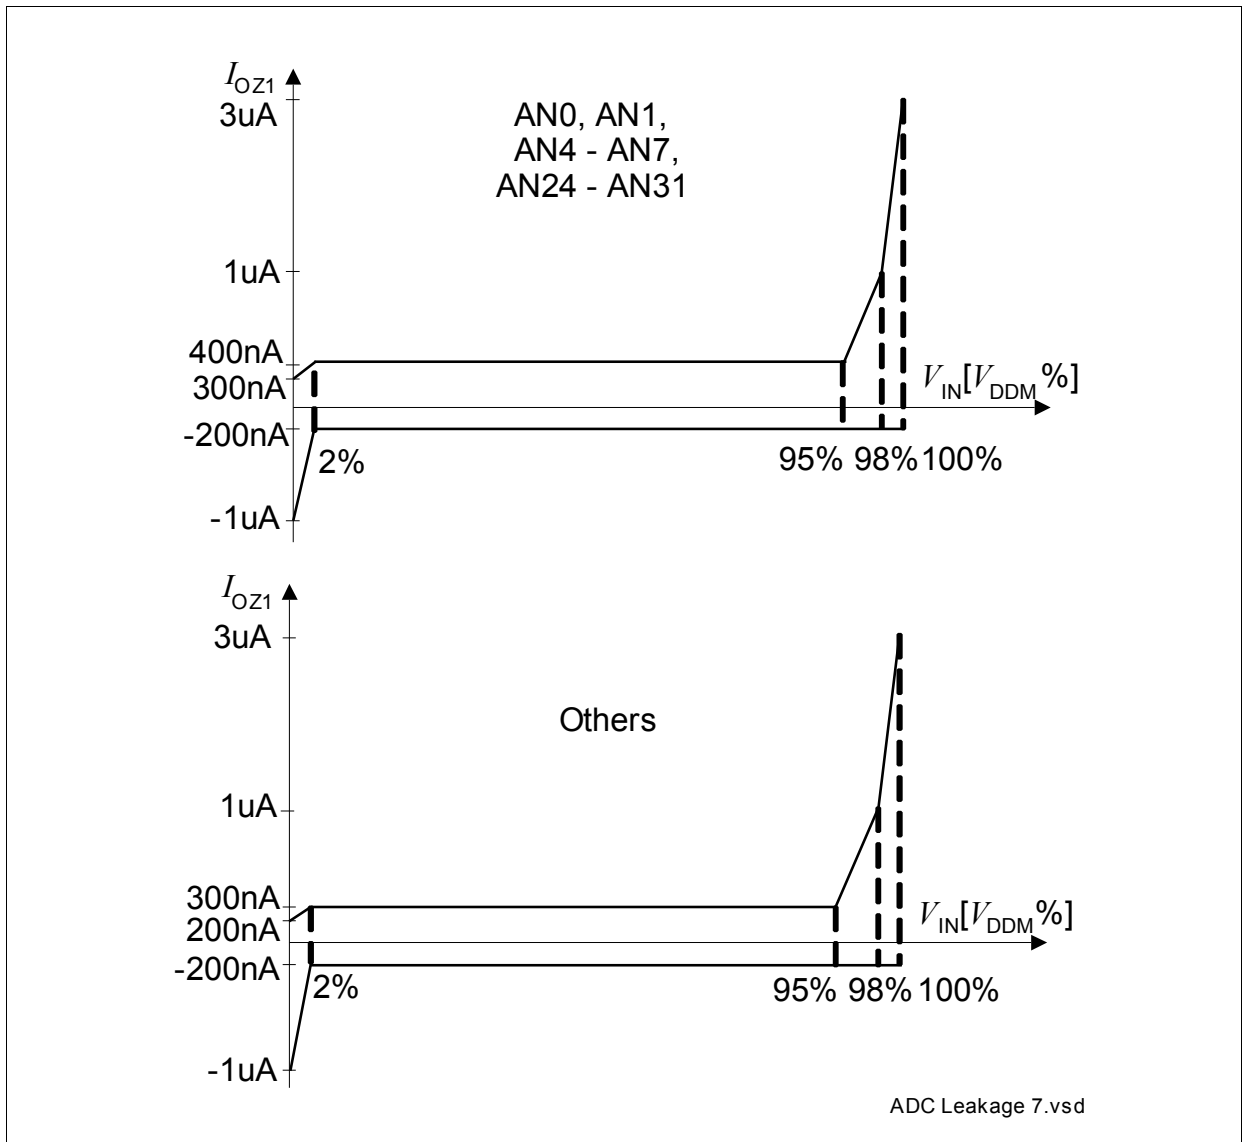

Figure 24 **ADC0/ADC1 Analog Inputs Leakage**
| Input leakage current at analog inputs AN0, AN1, AN4 to AN7, AN24 to AN31. see Figure 24 13) 14) | I_{OZ1} CC | -1000 | – | 300 | nA | $(0\% V_{DDM}) < V_{IN} < (2\% V_{DDM})$ |
| Input leakage current at the other analog inputs, that is AN2, AN3, AN8 to AN23, AN32 to AN43 see Figure 24 14) | I_{OZ1} CC | -1000 | – | 200 | nA | $(0\% V_{DDM}) < V_{IN} < (2\% V_{DDM})$ |
- 13) The leakage current definition is a continuous function, as shown in Figure 24. The numerical values defined determine the characteristic points of the given continuous linear approximation - they do not define step function.